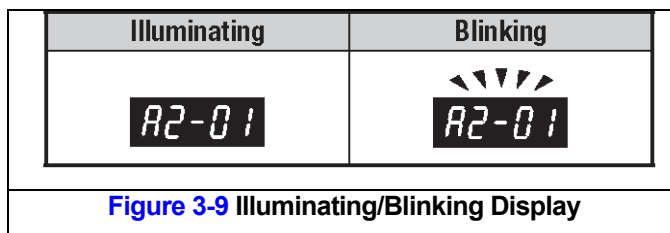

Figure 3-9 Illuminating/Blinking Display
3.6.6 During operation the data display will exhibit illuminating or blinking data as shown in Figure 3-9.